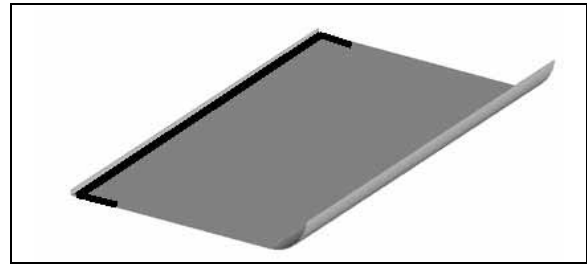
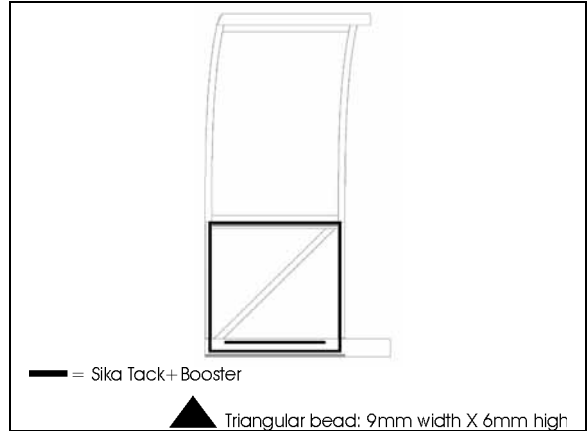
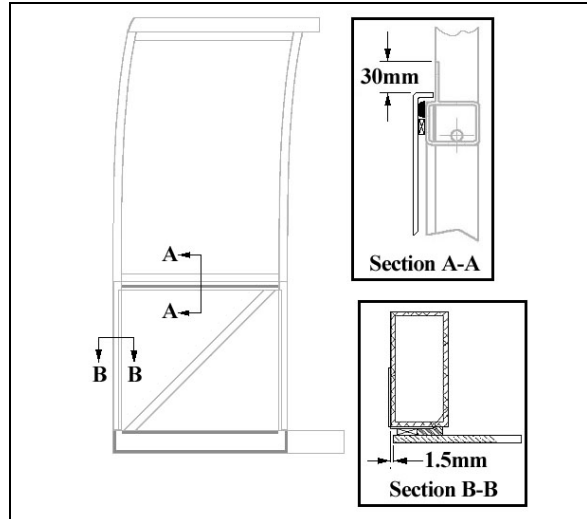

FIGURE 46 : SIDE PANEL INSTALLATION – SIKA 221 OR 252 APPLICATION ON SIDE PANEL
FIGURE 47 : SIDE PANEL INSTALLATION – SIKA TACK+BOOSTER APPLICATION
FIGURE 48 : SIDE PANEL INSTALLATION
8. Apply a 5mm diameter bead of Sika 221 or 252 on side panel as shown on FIGURE 46; Apply Sika Tack+Booster (triangular bead: 9mm width X 6mm high [11/32"x1/4"]) as shown in Figure 47 and glue panel in place as shown in FIGURE 48. Do not remove the tape blue protective layer;